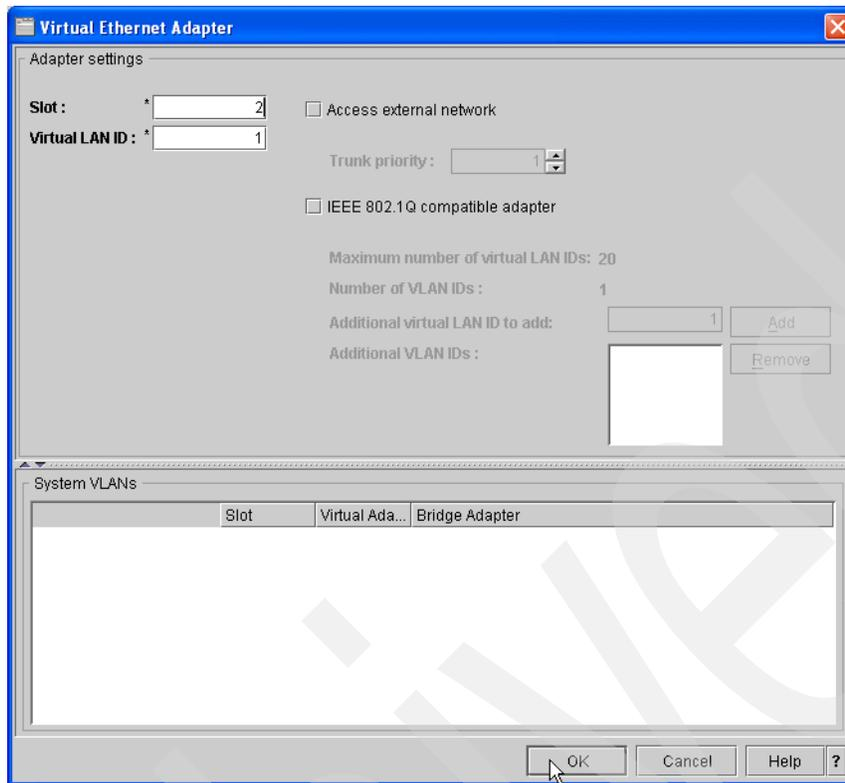

Figure 8-9 Creating Virtual Ethernet resources - 2
4. Click **Create adapter**. The window in Figure 8-9 on page 319 appears. The next available slot (2 in this example) and the default Virtual LAN ID (1) are shown in this example.